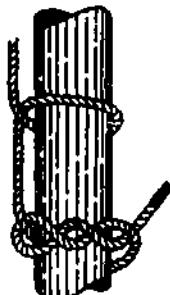

Figure 2-14. The Timber Hitch with Half Hitch
e) When a plank or an object is lifted in a near-vertical position, a half hitch is added above the timber hitch as an extra choke to keep the line from slipping (Figure 2-14).